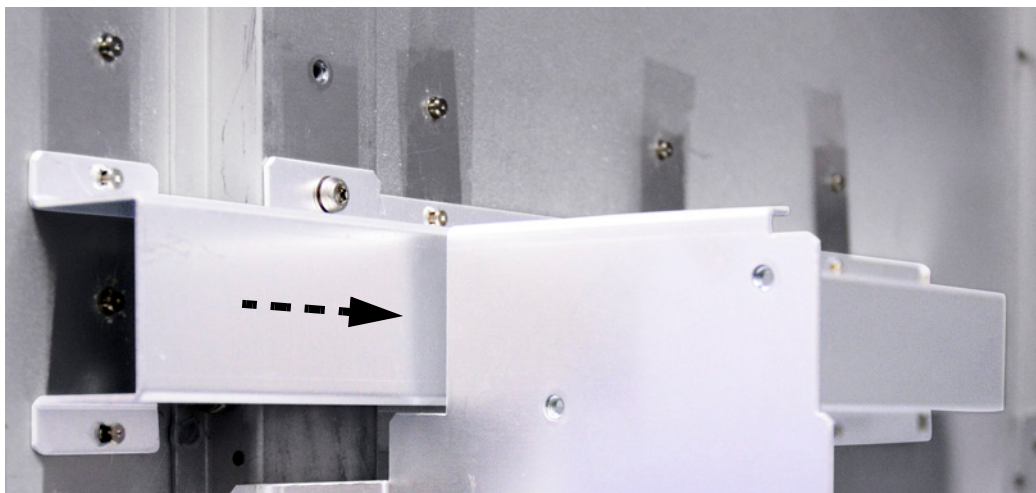

Figure 15 Sliding the side rack (left side oven rack shown)
- 2 Carefully push the left side rack towards the back of the headspace sampler (Figure 15).